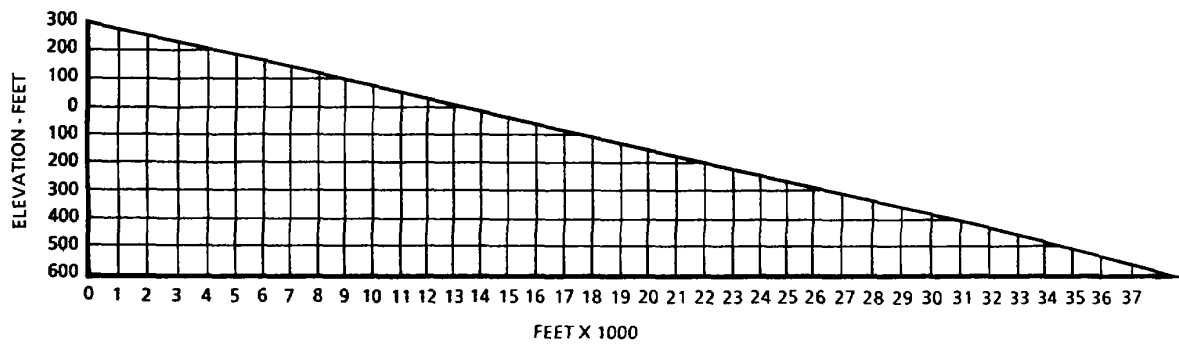

Figure 2-9. Spacing Triangle.
- (8) To construct a spacing triangle, obtain a piece of paper, transparent sheet, or cardboard thick enough to be used as a straightedge. Then proceed as follows (refer to figure 2-9).